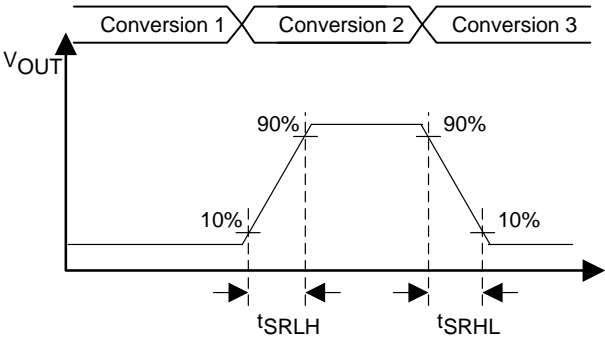

Figure 24. Slew Rate Testing
**12-bit DAC, dynamic specifications; Vref = VCC, DAC12IR = 1 (see Figure 23 and Figure 24)**